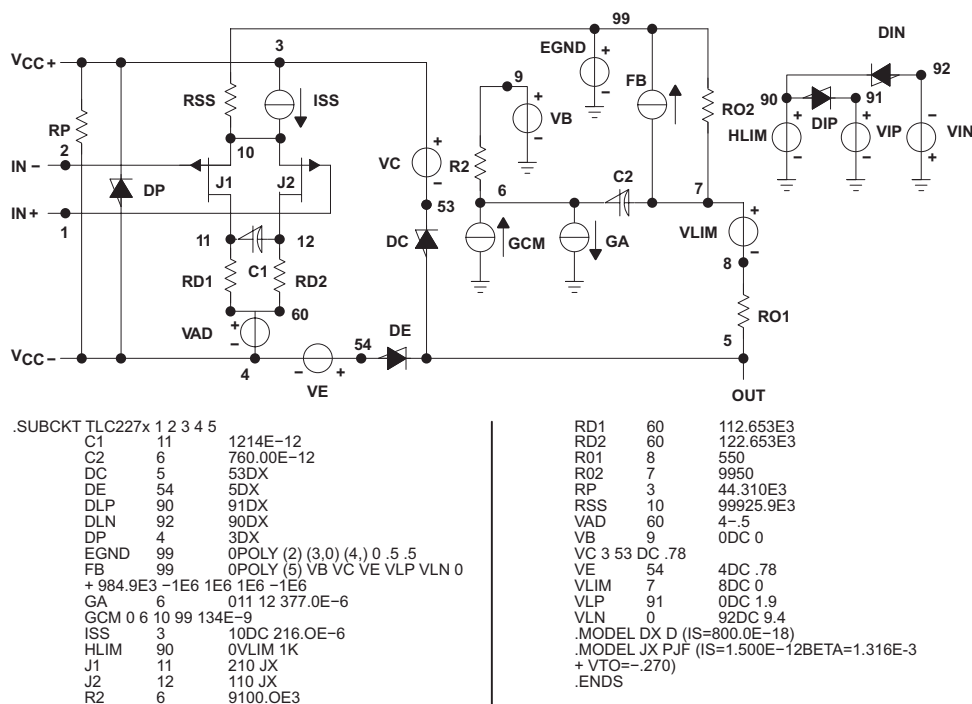

Figure 53. Boyle Macromodel and Subcircuit
Macromodel information provided was derived using MicroSim Parts™, the model generation software used with MicroSim PSpice™. The Boyle macromodel (1) and subcircuit in Figure 53 were generated using the TLC2272M-MIL typical electrical and operating characteristics at  $T_A = 25^\circ\text{C}$ . Using this information, output simulations of the following key parameters can be generated to a tolerance of 20% (in most cases):